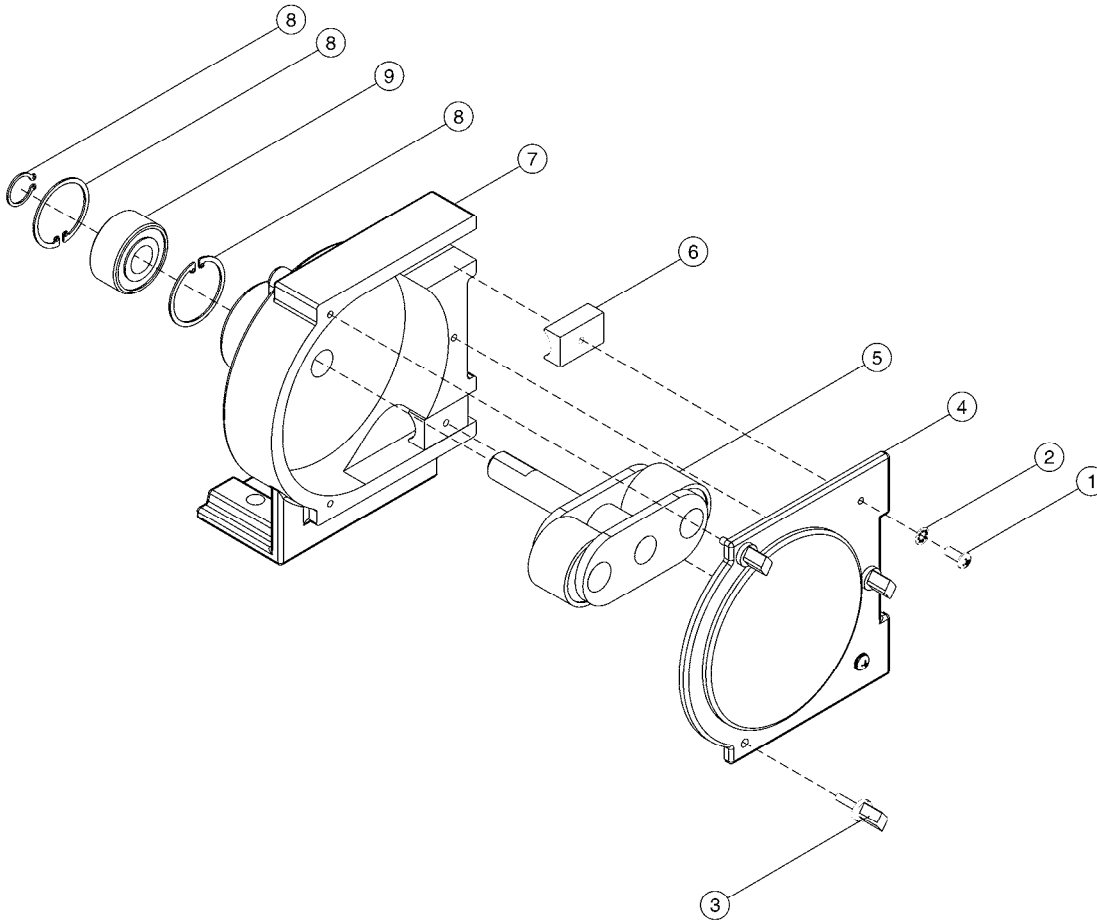

Figure 1-3. Exploded view of the Peristaltic Pump.
- 1. Refer to Figure 1-3 to locate and identify the various components of the Peristaltic Pump.